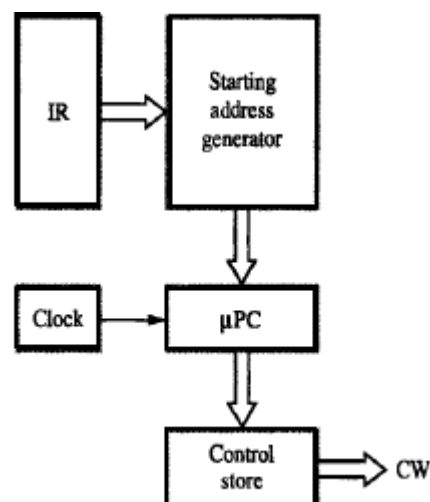

Figure 7.16 Basic organization of a microprogrammed control unit.
- Microprogramming is a method of control unit design (Figure 7.16).